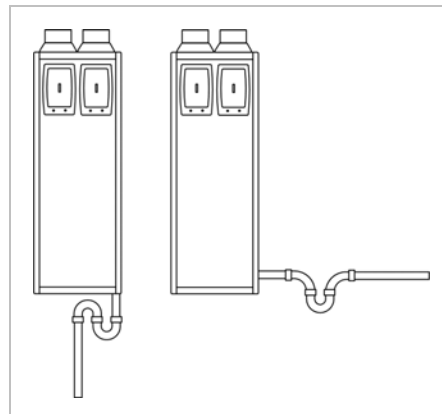

Figure 22: Attaching Condensate Drain
1. Ensure worm-drive clips fitted on flexible condensate U-pipes are tight (see *Figure 22*).